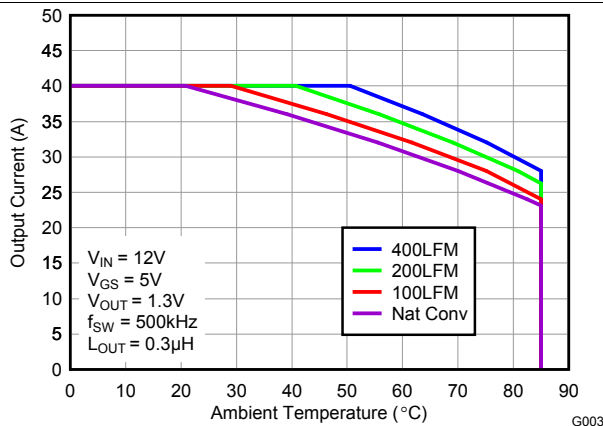

Figure 3. Safe Operating Area – PCB Vertical Mount ⁽¹⁾
The SOA curves in the CSD86350Q5D data sheet provides guidance on the temperature boundaries within an operating system by incorporating the thermal resistance and system power loss. **Figure 3** to **Figure 5** outline the temperature and airflow conditions required for a given load current. The area under the curve dictates the safe operating area. All the curves are based on measurements made on a PCB design with dimensions of 4 in (W) × 3.5 in (L) × 0.062 in (T) and 6 copper layers of 1-oz copper thickness.